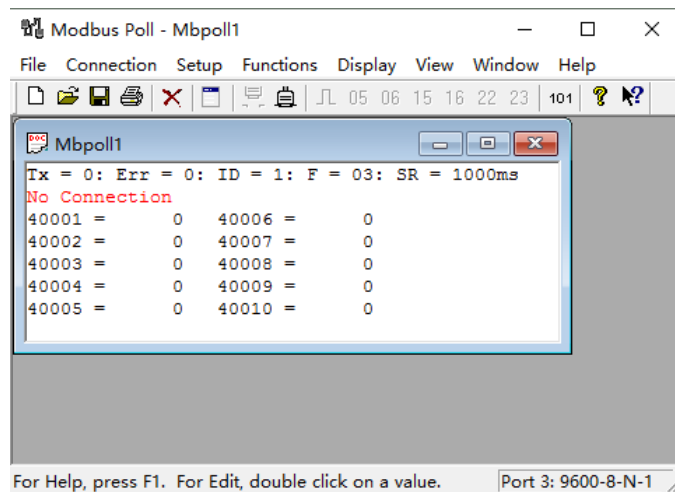

Figure 14 Modbus Poll Software Interface
- (2) Open the Modbus Poll software, the interface is shown in Figure 14.